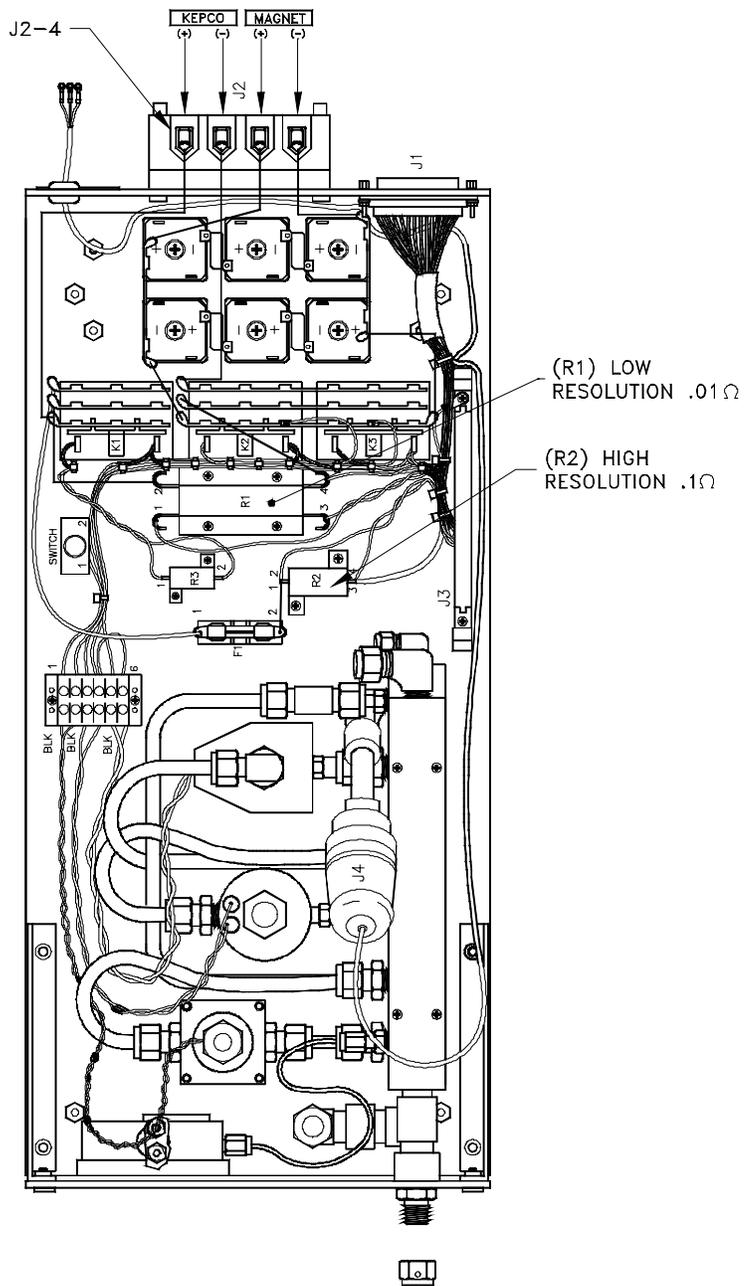

Figure 1. Magnet Controls
5. At the rear of the gas/magnet tray is a large terminal block with four large leads going to it. Locate the two contacts labeled **Magnet +** and **Magnet -**. See Figure 1.
1. Refer to Figure 1 and locate the **High Resolution (R2)** resistor. This is the small-sized resistor located near the middle of the tray (the 0.1 ohm resistor).
13. Locate the **Low Resolution (R1)** resistor on the gas/magnet tray. This is the large-sized resistor located toward the rear of the tray from the High Resolution resistor. This is a 0.01 ohm resistor. See Figure 1.